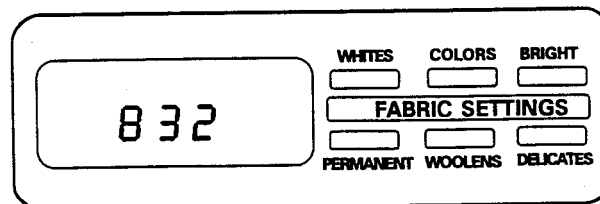

Figure 3-3
The display can contain four (4) numbers and/or letters and a decimal point following the first character. The far left character and the decimal point are used to indicate one (1) of several set-up codes available for use in programming the appliance. The other digits are used to provide information about the code set-up shown (See Figure 3-3).